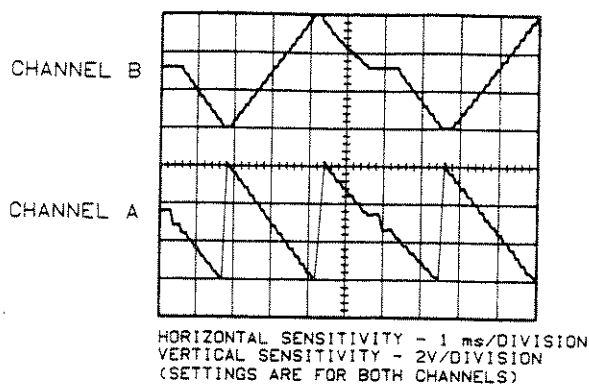

Figure 8-13. X-AXIS (Bottom) and Y-AXIS (Top) Drive Signals
3. Turn on the Noise Figure Meter and verify that the signals are as shown in Figure 8-13. If both signals are correct, continue with the Z-Axis Test (Check 6).